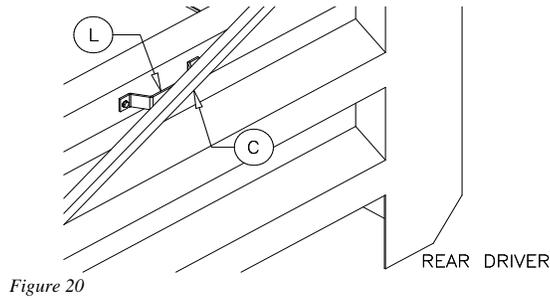

Figure 20
(See Figure 20)
**Note:** The pivot arm guides (L) (see Figure 20) prevent the tarp from shifting to either side of the box when the tarp is in closed position.
**Procedure:** Close the tarp. Place a pivot arm guide (L) along one of the ribs in the box wall (see Figure 20). Make sure the guide is aligned with the pivot arm (C). Mark the position of the pivot arm guide. Using a 11/32" drill bit, drill two holes into the box wall. Secure the pivot arm guide to the box wall with the 3/8"x1-1/4" self threading bolts provided. Repeat the above procedure for the opposite side of the box.